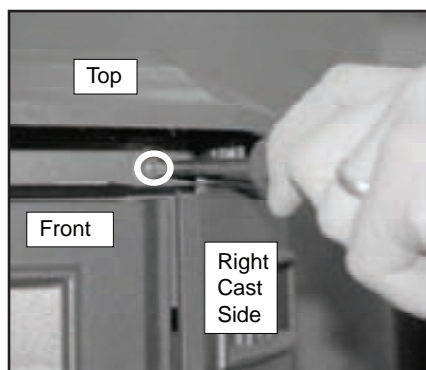

Figure 32.1
- Loosen screw on top right corner directly under the cast top, but do not remove. **Figure 32.1.**